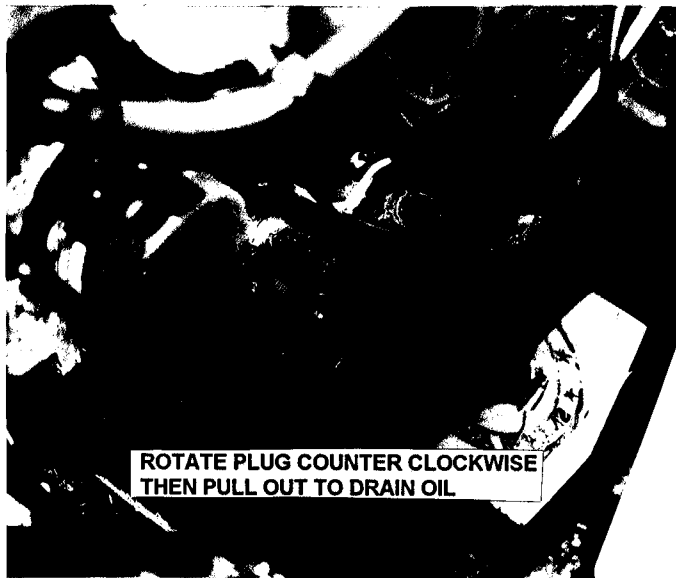

FIGURE 3.1
- b. Rotate counter clockwise and pull out to open the drain plug. See Figure 3.1.
d. After all the oil has drained, close the drain by pushing in and rotating clockwise to close. Wipe up any oil that may have spilled. Dispose of drained oil properly. See Figure 3.1.